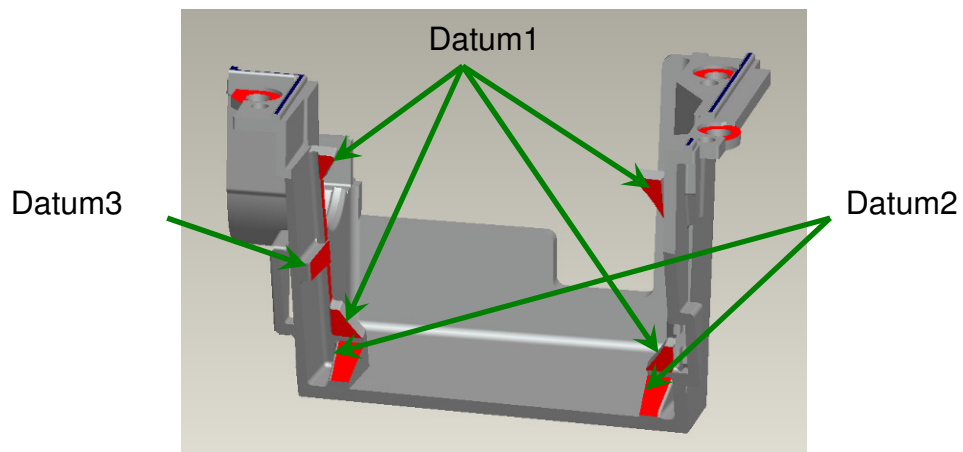

Fig. 3-11
- (1) Assemble CM to Sub HSG and to make CM contact Sub HSG datum Well (Fig. 3-11, 3-12).